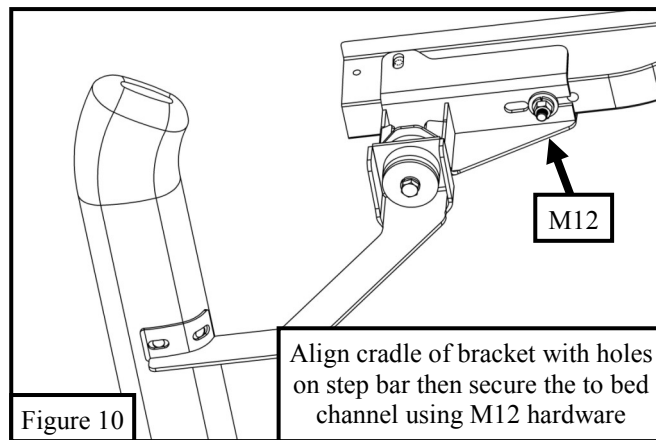

Figure 10
- Align the assembly of the bed mount top bracket, bed mount bottom bracket and the isolator kit to the bed channel and adjust the assembly, by moving it along the bed channel, until two holes in the cradle are aligned with the two holes of the step bar assembly. Then secure assembly to previous installed M12 bolt plate using the provided M12 hardware. See **Figure 10**.